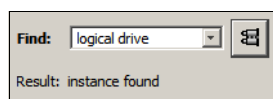

Figure 14-17 The Find box
3. Use the **Find** box (Figure 14-17) in the lower left corner of the profile window to search the profile. Enter the required text and click the Binoculars icon to find the string in the current tab.